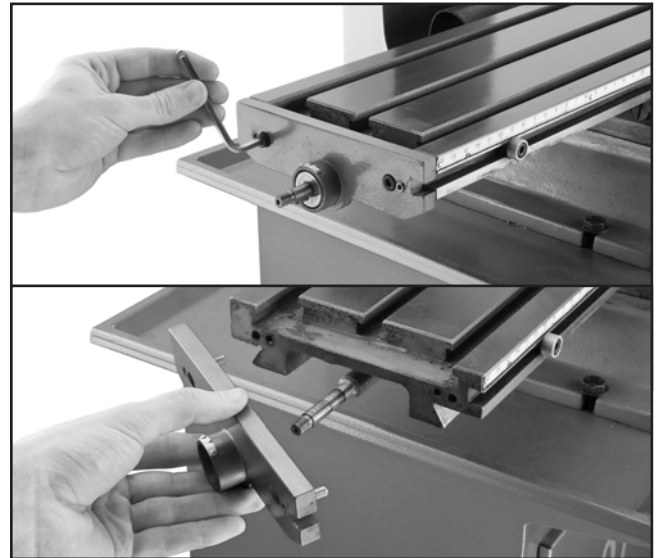

Figure 4. Removing cap screws and end-plate from table.
3. Remove the (2) M6-1 x 10 cap screws securing the left table end-plate to table, then remove the left table end-plate from the table, as shown in **Figure 4**.